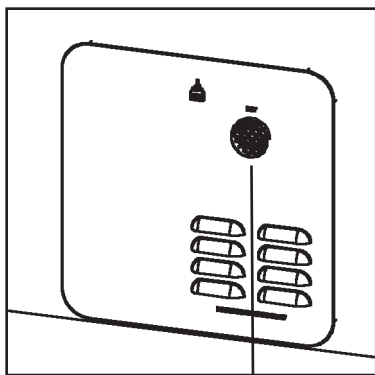

Figure 6 *Insert exhaust tube through door opening*
2. The exhaust tube extends beyond the door's face through the clearance hole BUT not beyond the face of the door. Be sure that the exhaust tube is seated properly. See Figure 6